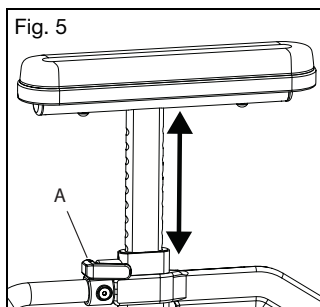

Fig. 5
- Pull the height adjustment lever (Fig. 5:A) and slide the upper T-Arm assembly to the desired height.
- Close the height adjustment lever (Fig. 5:A) to secure.